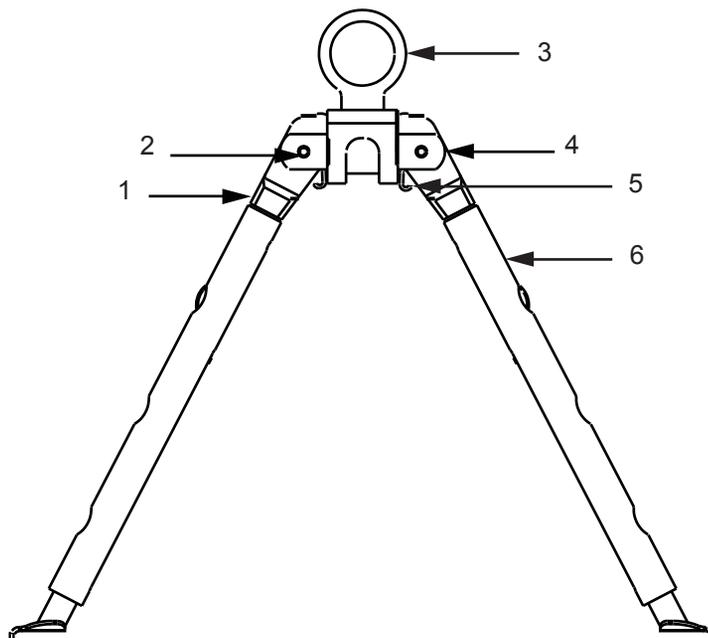

Figure 1. Bipod Collar and Pivot Rod.
1. Place bipod assembly in a vise with protective jaws. Drive spring pin (Figure 1, Item 2) out of bipod assembly using a 5/32 inch punch. Discard spring pin (Figure 1, Item 2).
2. Remove the punch from the bipod assembly (Figure 1). Remove spring, helical, compressed (Figure 1, Item 5) and bipod leg assembly (Figure 1, Item 6).
3. Remove pivot rod (Figure 1, Item 4) from collar (Figure 1, Item 3).